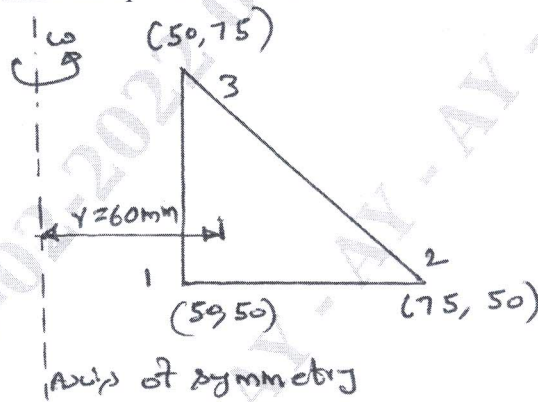

Fig.Q9(b)
b. For the element of an axisymmetric body rotating with a constant angular velocity $w = 1000$ rev/min as shown in Fig.Q9(b), determine the body force vector. Include the weight of the material, where the specific density is 7850 kg/m^3 .